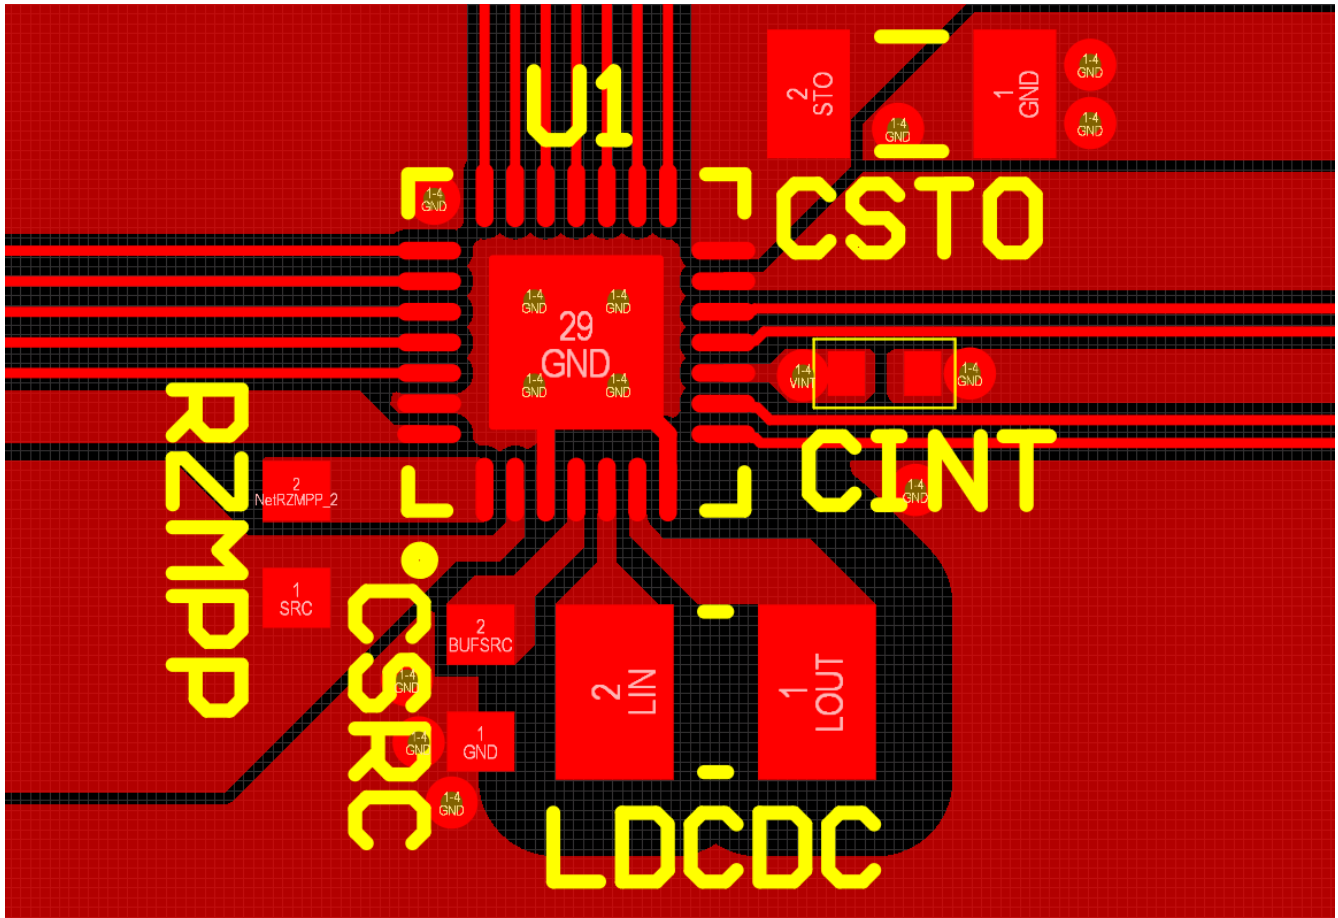

Figure 17: Layout Example for the AEM30300 and its Passive Components
- The switching nodes (LIN and LOUT) must be kept as short as possible, with minimal track resistance and minimal track capacitance. Low resistance is obtained by keeping track length as short as possible and track width as large as possible between L_{DCDC} and the AEM30300 pins. Minimal capacitance is obtained by keeping distance between LIN/LOUT and other signals. We recommend removing the ground plane, the power plane and the bottom layer ground pour under L_{DCDC} footprint, as well as adding distance between LIN/LOUT and the top ground pour, as shown on Figure 17.